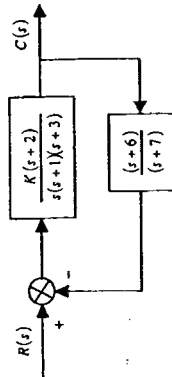

Figure 2.
- Use the Routh-Hurwitz criterion to find the range of K for which the system of Figure 2 is stable.